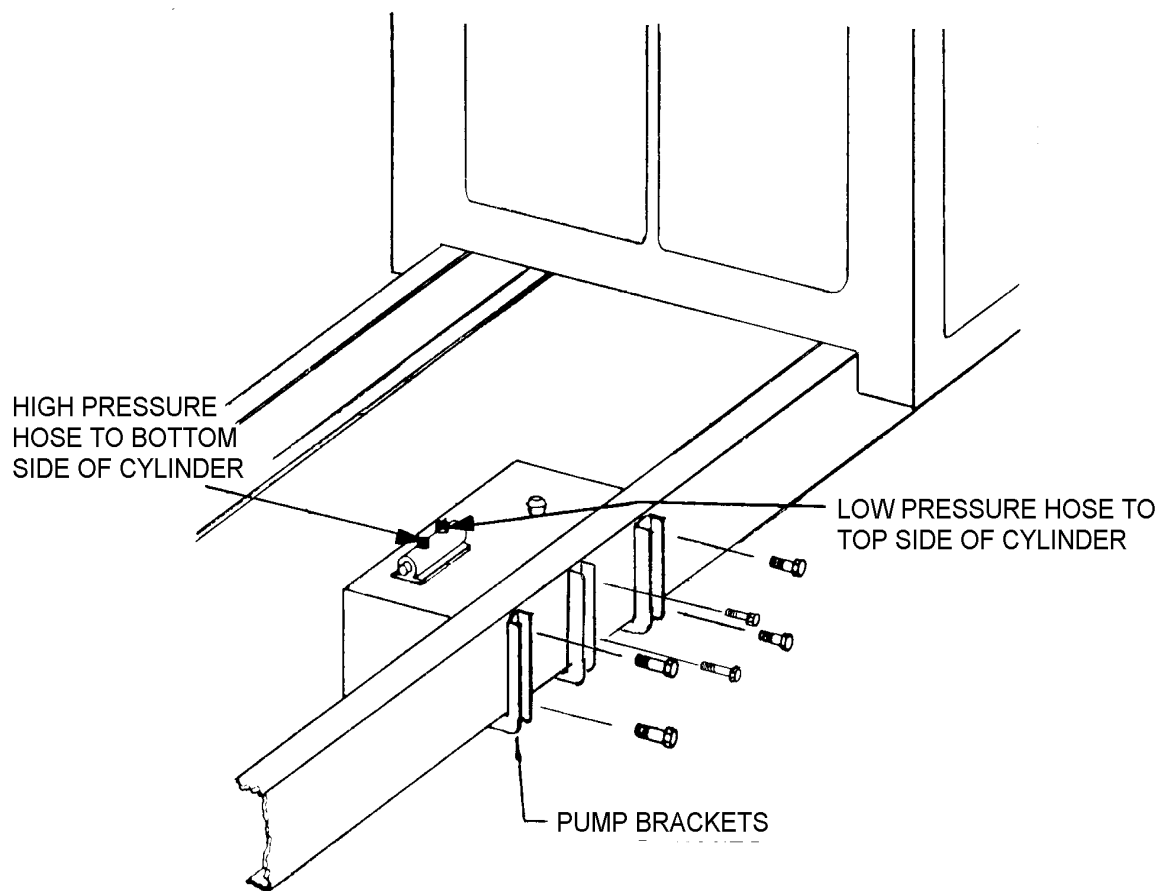

Figure 5 - Pump Installation
- F. Fasten the rear half of the subframe to the truck by welding the two frame tie down brackets onto the subframe, drilling corresponding holes through the truck frame, and using two (2) 1/2" x 1-1/2" hexhead cap screws, lockwashers, and nuts, and four (4) flatwashers (both sides). The tie down brackets should be located as close as possible to the rear hinge to insure stability.
- H. After the two halves are welded together, place the mounting angles under the lower pivot angles and against the truck frame. Clamp them securely in place. Drill through the frame and install the mounting angle with two (2) 1/2" x 1-1/2" hex head cap screws, lock washers, and hex nuts, and four (4) flatwashers (both sides). See Figure 5.
1. See Figure 5. Position and bolt each pump bracket to the pump and secure with the 3/8 x 1-1/4" bolts and hex nuts (VC-520 requires only 2 pump brackets).
3. Two (2) 17/32" holes need to be drilled in the pump brackets and truck frame (Figure 5). Mark the hole locations as close to the truck frame flanges as possible. Drill 17/32" holes and install the 1/2" x 1-1/2" hex head cap screws with lockwashers and hex nuts.
1. 7' (or 7'-10") hose(s) installation - Connect one end of the hose to the front pump port (low pressure). Connect the other end of the hose to the rod end of the hoist cylinder (Figure 5).
2. 5' hose(s) installation - Connect one end of the hose to the rear pump port (high pressure). Connect the other end of the hose to the base end of the hoist cylinder (Figure 5).